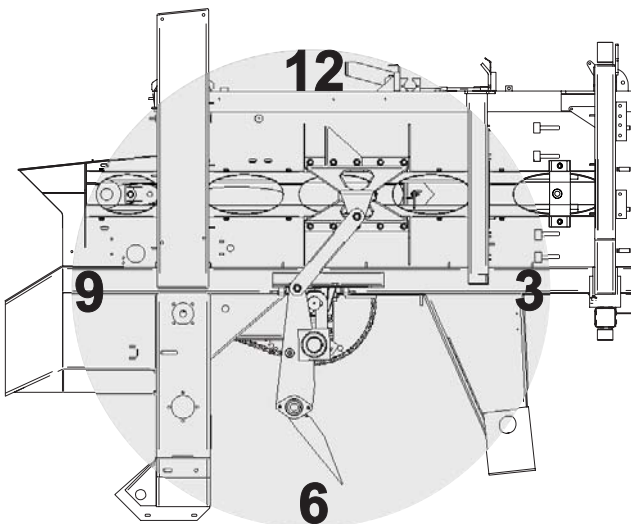

Figure 105 - Feed Fork in 6 o'clock Position
7. Use test string to cycle plunger. When the plunger has returned to its home position (fully retracted) the feed fork should be in the 6 o'clock position (see figure 105).